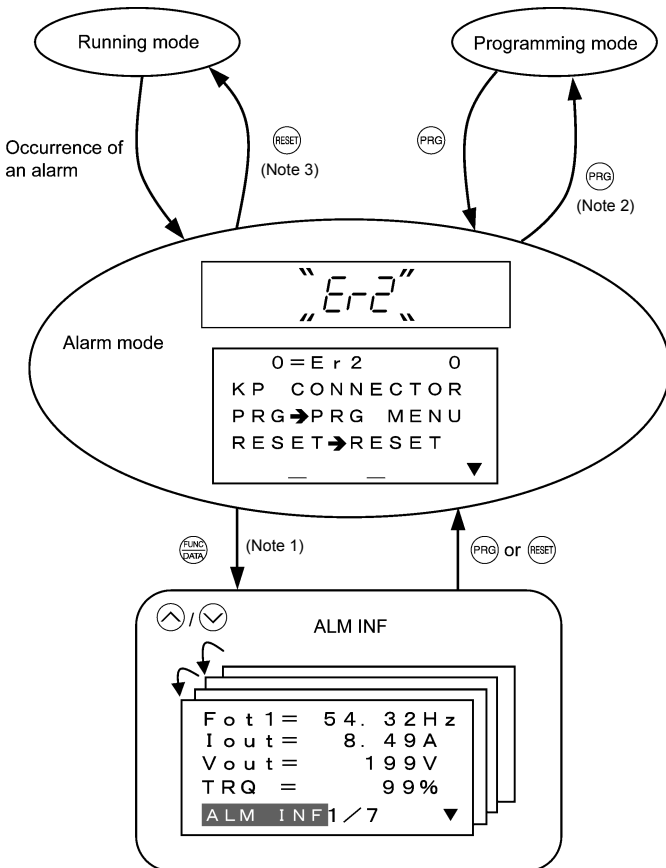

Figure 3.41 Screen Transition in/from Alarm Mode
■ Display of running status information at the time of alarm (Note 1 in Figure 3.41)
■ Transition to Programming mode (Note 2 in Figure 3.41)
■ Resetting alarm (Note 3 in Figure 3.41)